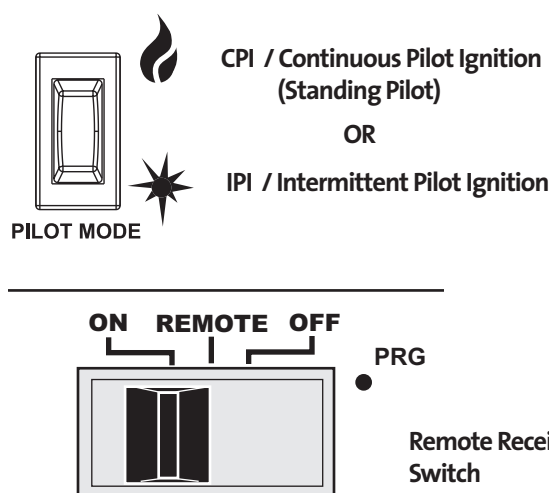

Figure 35b. Initial system settings.
3. **Slide the Remote Receiver switch to the ON position**. The ignitor will generate spark in either IPI or CPI pilot modes. See fig. 35b.